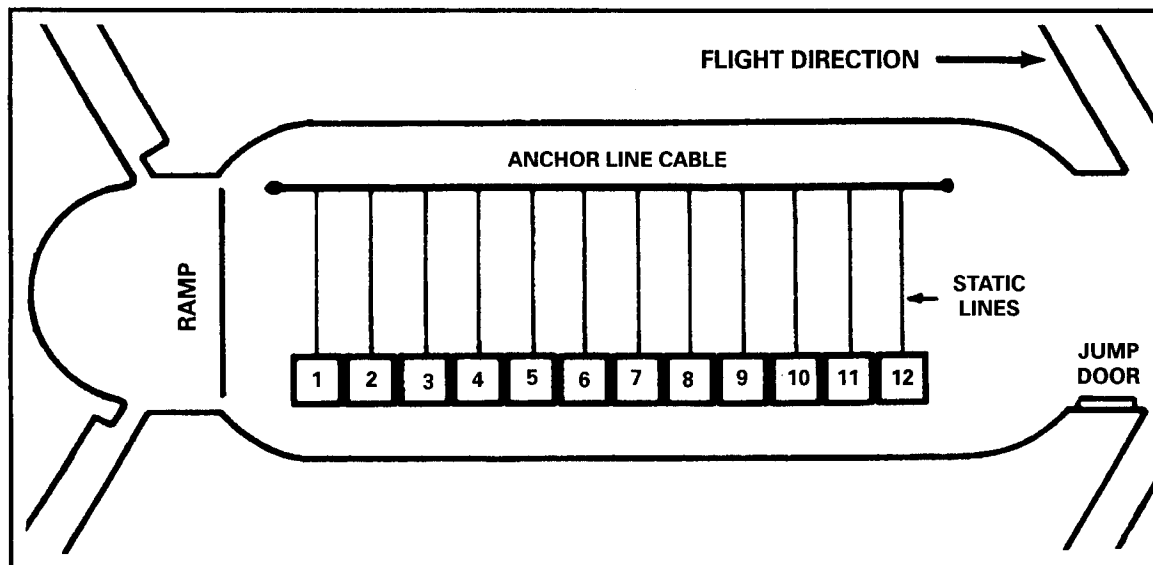

Figure 18-9. CH-46 ramp jump.
(2) **STAND UP.** Parachutists stand up and move to the port side (Figure 18-9).